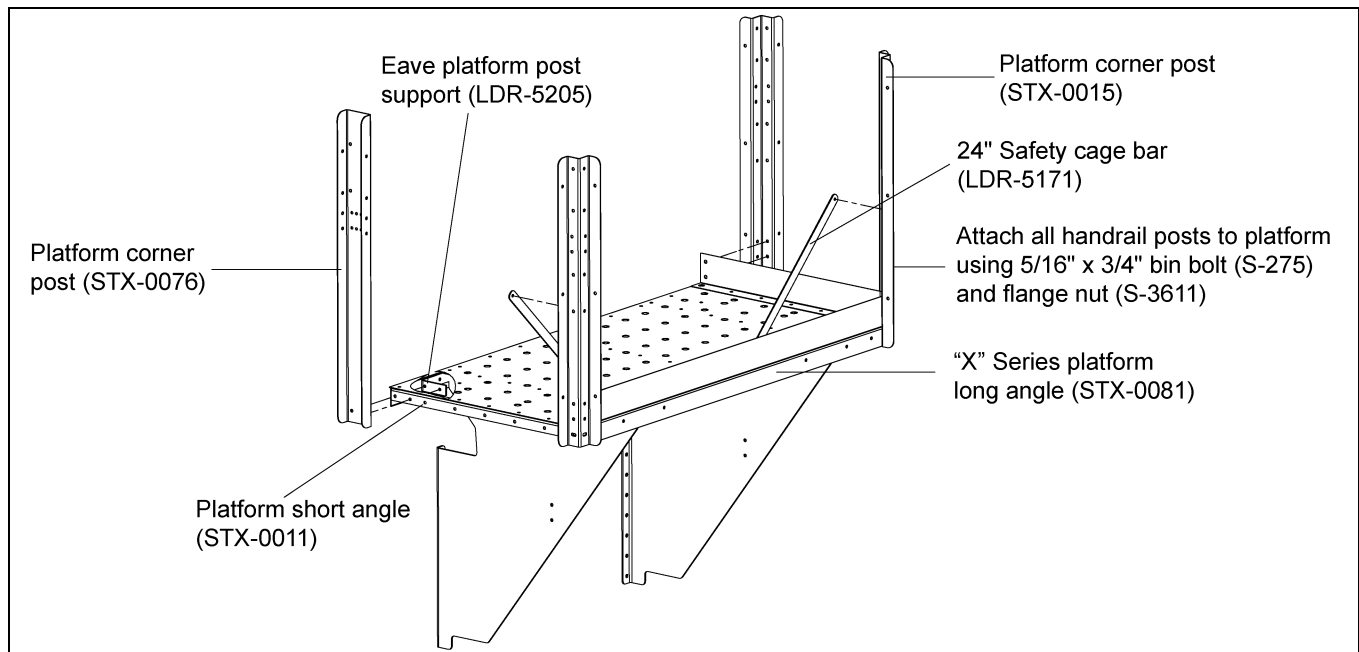

Figure 4B
3. Figure 4B shows the assembly of the platform post and post supports. This must all be assembled at the same time using 5/16" hardware.